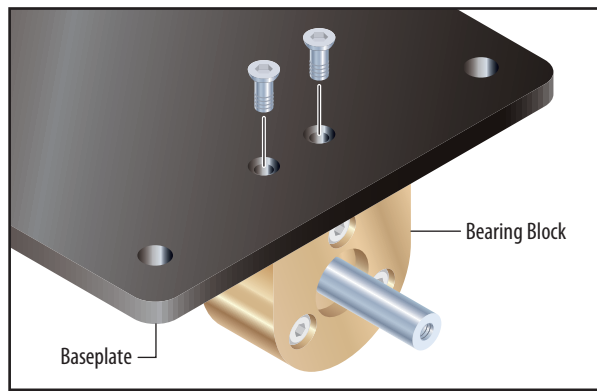

Figure 4
- 7 Use a 4mm Allen key to remove the two (2) cap screws holding the Bearing Block to the Baseplate (**figure 4**).